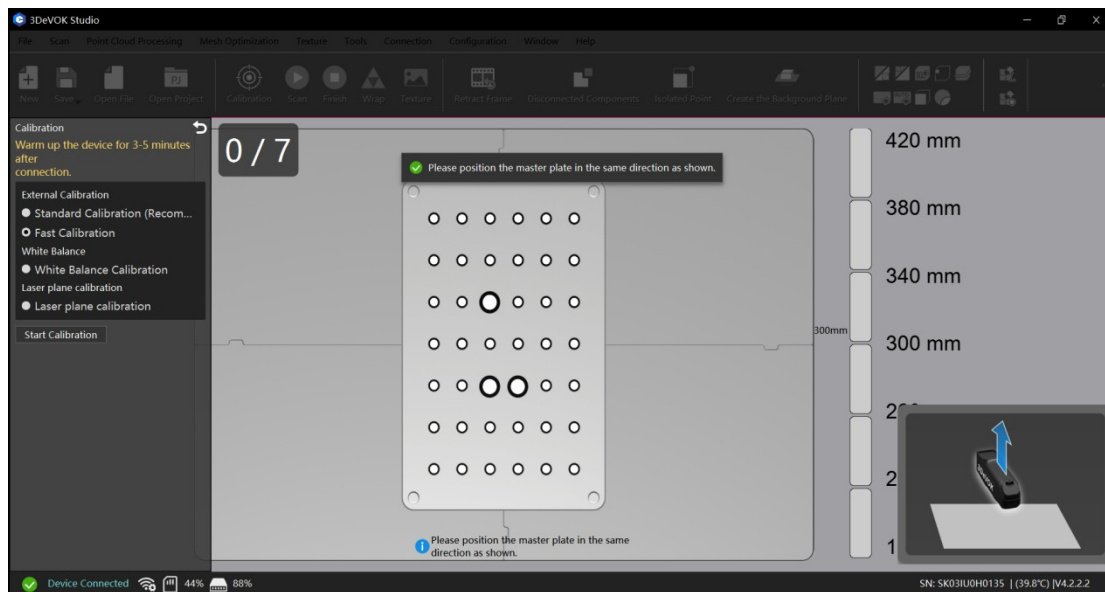

Figure 6-4 Fast Calibration
2. Click  for device calibration, and follow the steps shown in Figure 6-4.